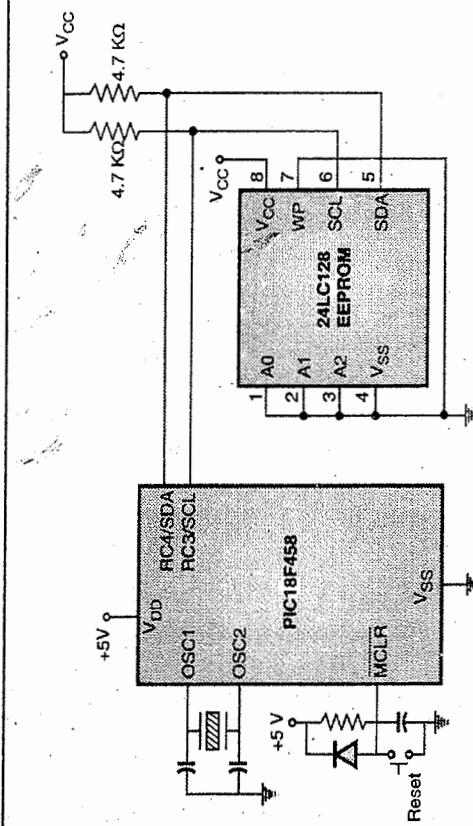

Fig. 14.13.1 : Interfacing PIC18 to EEPROM 24LC128 with I2C
Fig. 14.13.1 shows the PIC interfacing with EEPROM.
- As shown in Fig. 14.13.1 the SCL and SDA pins are open drain. Hence, they need pull up registers.
**Soln.:** Fig. 14.13.1 shows the interfacing diagram.